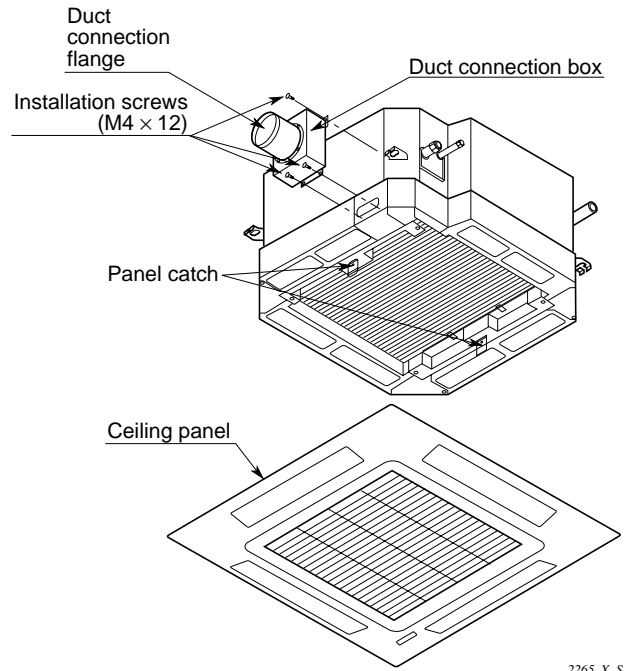

Fig. 2-18
- Fasten the duct connection flange to the duct connection box with the accessory screws. (M4 × L12, 4pcs) (Fig. 2-18)
- Put the duct connection box into the rectangular hole of the air-intake plenum and fasten it to the both sides of the indoor unit and plenum with the accessory screws. (M4 × L12, 3pcs) (Fig. 2-18)